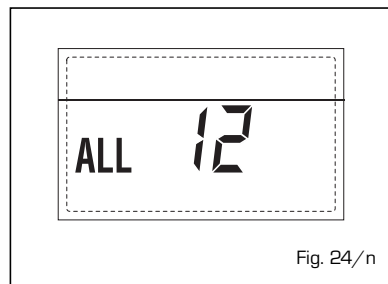

Fig. 24/n
**- SAFETY THERMOSTAT INTERVENTION FIRST MIXED ZONE "ALL 20" (fig. 24/p)**